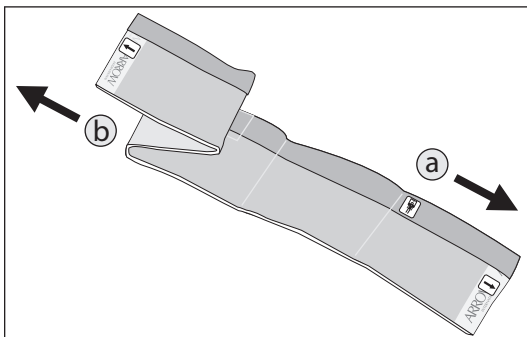

Figure 11
- Unfold width (refer to Figure 11).